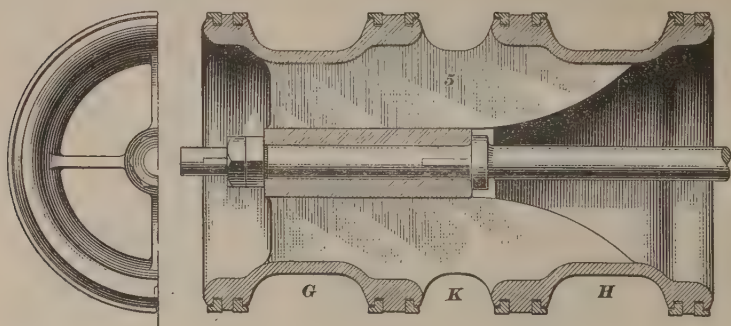

FIG. 19
28. The Piston Valves.—The valves used with this engine are piston valves of the hollow or balanced type. The high-pressure valve 5 is really equivalent to two internal admission valves *G*, *H* separated by a space *K* of 3 inches, as shown in Fig. 19.